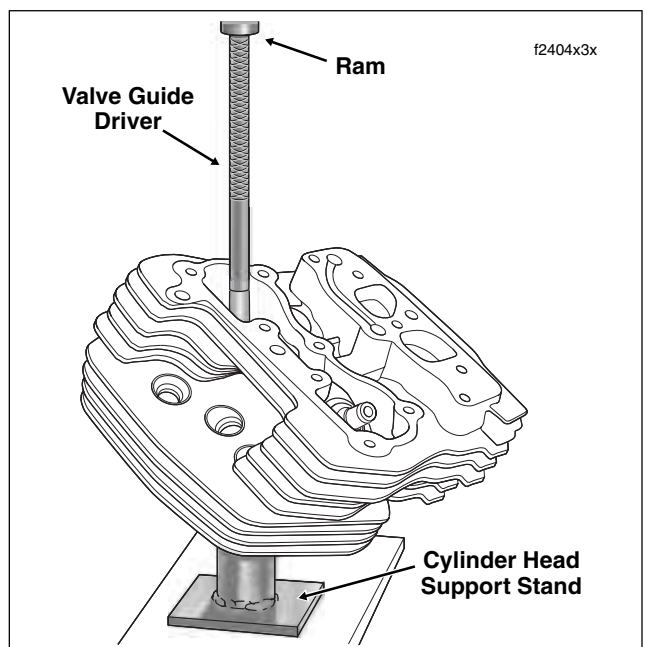

Figure 3-69. Remove Valve Guide
- Center valve guide driver under ram of arbor press. Apply pressure until valve guide drops free of cylinder head. Discard the valve guide. See Figure 3-69.